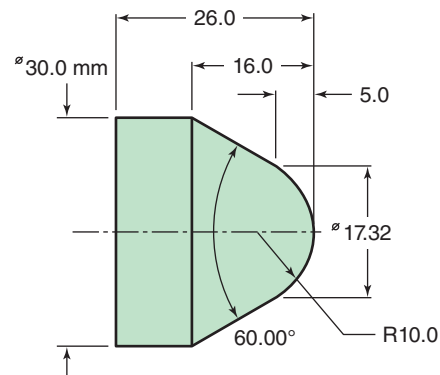

Figure 22-16 Write a manually compensated program to turn this bullet nose pin using a 2-mm nose radius tool.
4. Now write a metric program to turn (in one pass), then part off the aluminum bullet nose pin in Fig. 22-16. This is a bar feed job held in collets. Do not turn the stock diameter. Use a 2-mm nose radius lathe tool and write your program in absolute values. You may use either arc command method—both will be shown in the answers along with some math hints if you get stuck. Do not write roughing passes—this is an exercise to compile codes and arc commands only. Use 1,000 RPM and feed at 0.1 mm per revolution.